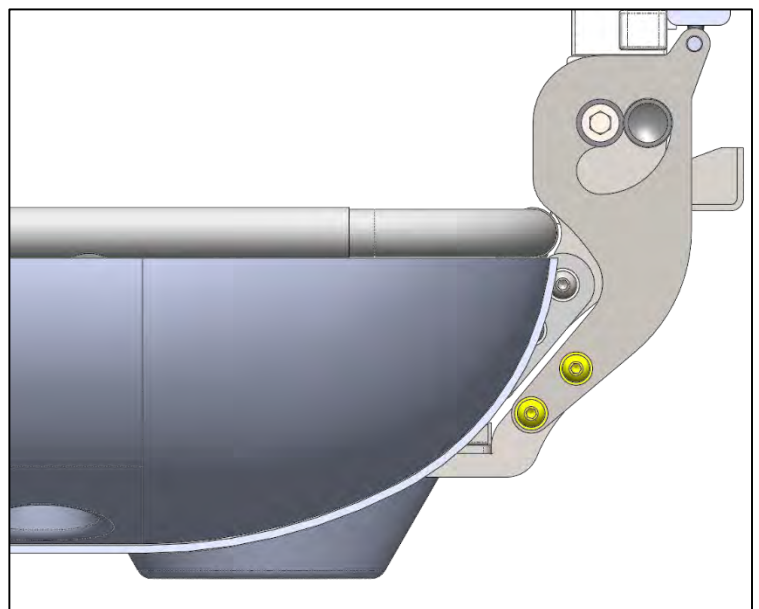

Fig. 16
- Loosen the bolts highlighted in Fig.16